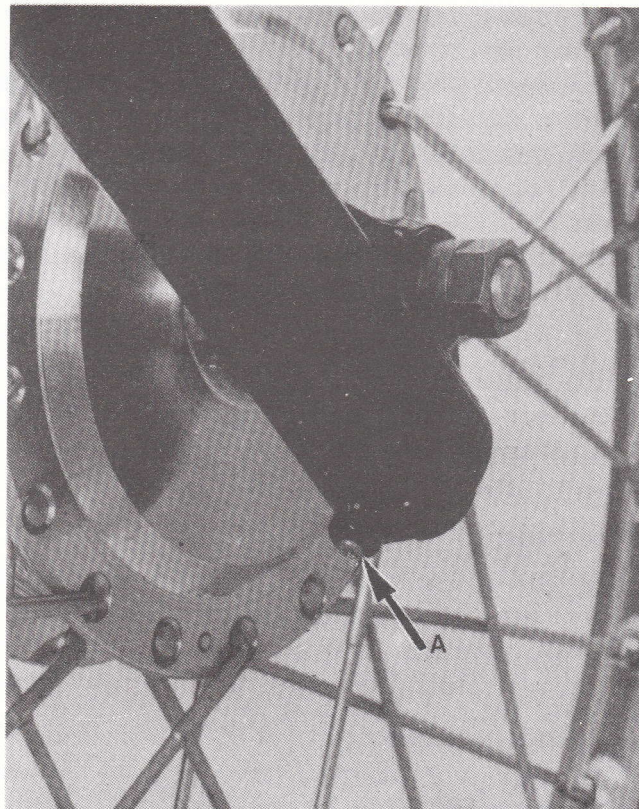

Fig. 25 - Front fork drain plug
Reinstall the drain plugs (A) and fill each leg with 210 cc. of new fork oil (fig. 25).